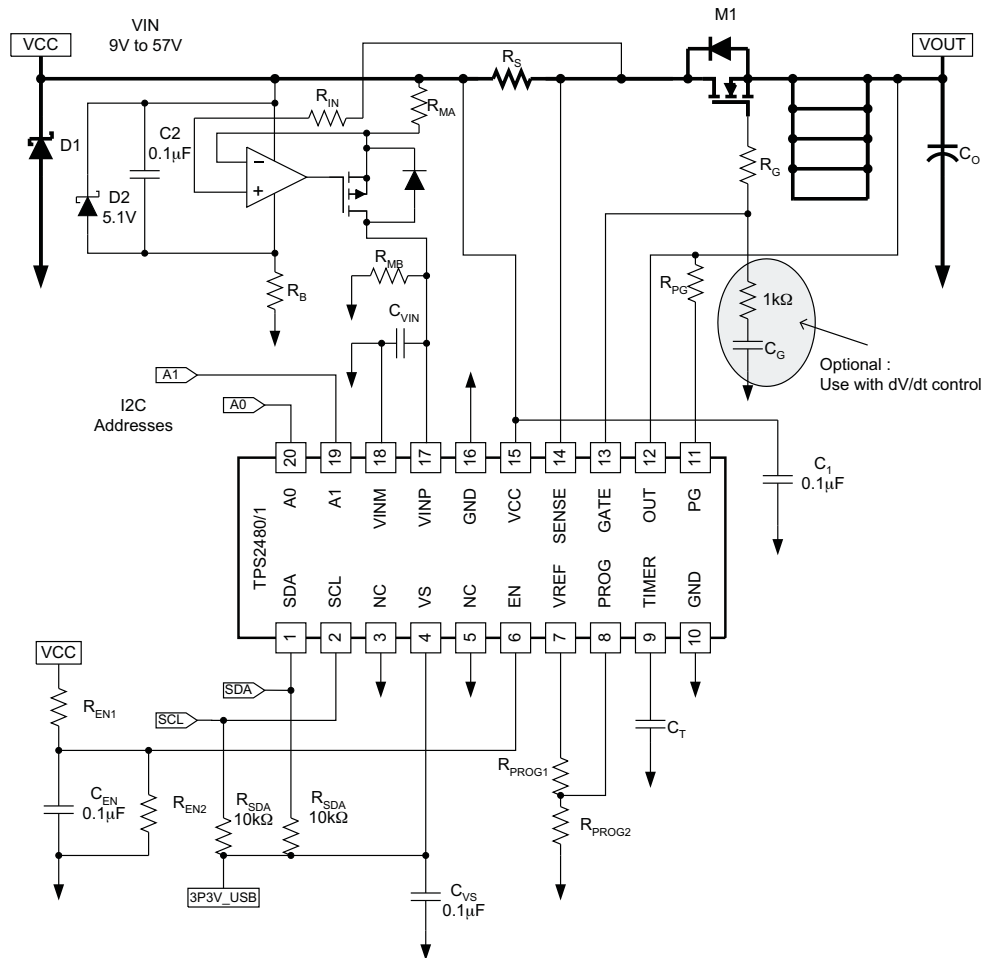

Figure 19. TPS2480/81 High Voltage Application
The TPS2480/81 can be used to monitor current from a voltage source greater than 26 V by using the OPAMP circuit shown in Figure 19.
- NOTES: (1) The value of the Slave Address Byte is determined by the settings of the A0 and A1 pins. Refer to Table 1.
(2) Read data is from the last register pointer location. If a new register is desired, the register pointer must be updated. See Figure 19.
(3) ACK by Master can also be sent.